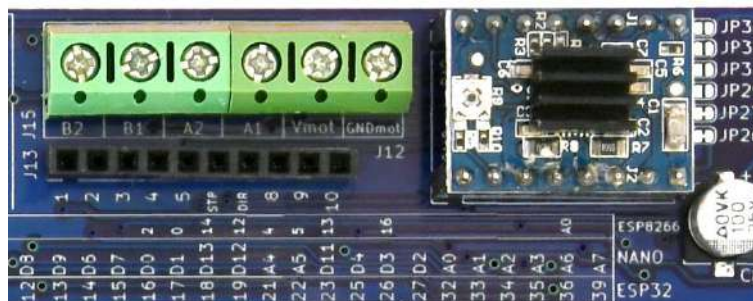

Figure 98 – An A4988 module plugged into BRD2 socket
- Plug the A4988 module into BRD2 socket according to the pinout (see Figure 98)